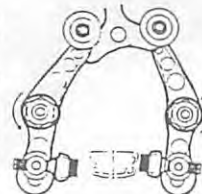
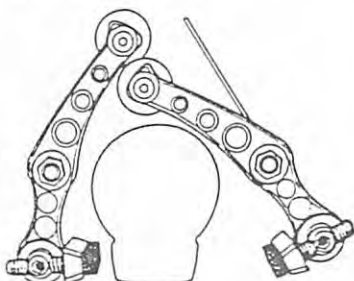
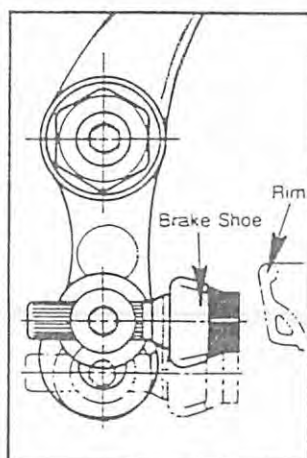
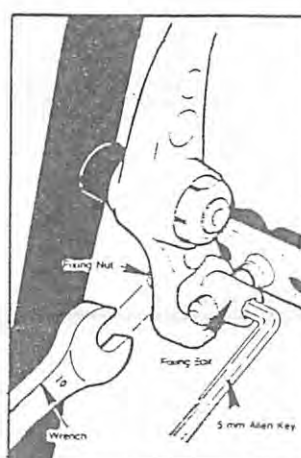

FIG. 30: Brake shoe clearance from rim can be adjusted by sliding brake in or out of brake arm.
FIG. 36: To remove wheel, squeeze brake shoes, slide cam plate out from between brake arms.
FIGURE 27
FIGURE 28
2. Brake shoe height (Fig. 27): Move brake shoes up or down by loosening the brake shoe fixing bolt (Fig. 28) and moving the brake shoe up or down. Tighten brake shoe fixing bolt to 52-78 inch/pounds.
3. Angle adjustment (Fig. 29): Brake shoes should be parallel to rim flat. Loosen brake shoe fixing bolt (Fig. 28) to make this adjustment.
4. Brake shoe clearance adjustment (Fig. 30): There are four ways to adjust roller cam brake clearance:
a. Move brake shoe toward or away from rim flat (Fig. 30). Loosen brake shoe fixing bolt (Fig. 28), adjust brake shoe clearance to between 1/8th inch to 1/4th inch, tighten fixing bolt to 52-78 inch/pounds.
5. Adjust toe-in (Fig. 36) with a 5 mm Allen wrench as shown in Fig. 28. Note that front of brake shoe should be closer to wheel rim so it contacts rim first for smoother braking. Tighten brake shoe fixing bolt to 52-78 inch/pounds.
6. Squeeze brake levers to check proper stroke on the cable. Check cable anchor bolt against the cam plate. Make sure that the cam plate follows the roller groove (see Fig. 32). Note: For brake shoe clearance when you remove the wheel, simply slide the cam plate out of the roller groove and let one brake arm swing open, as shown in Fig. 36.